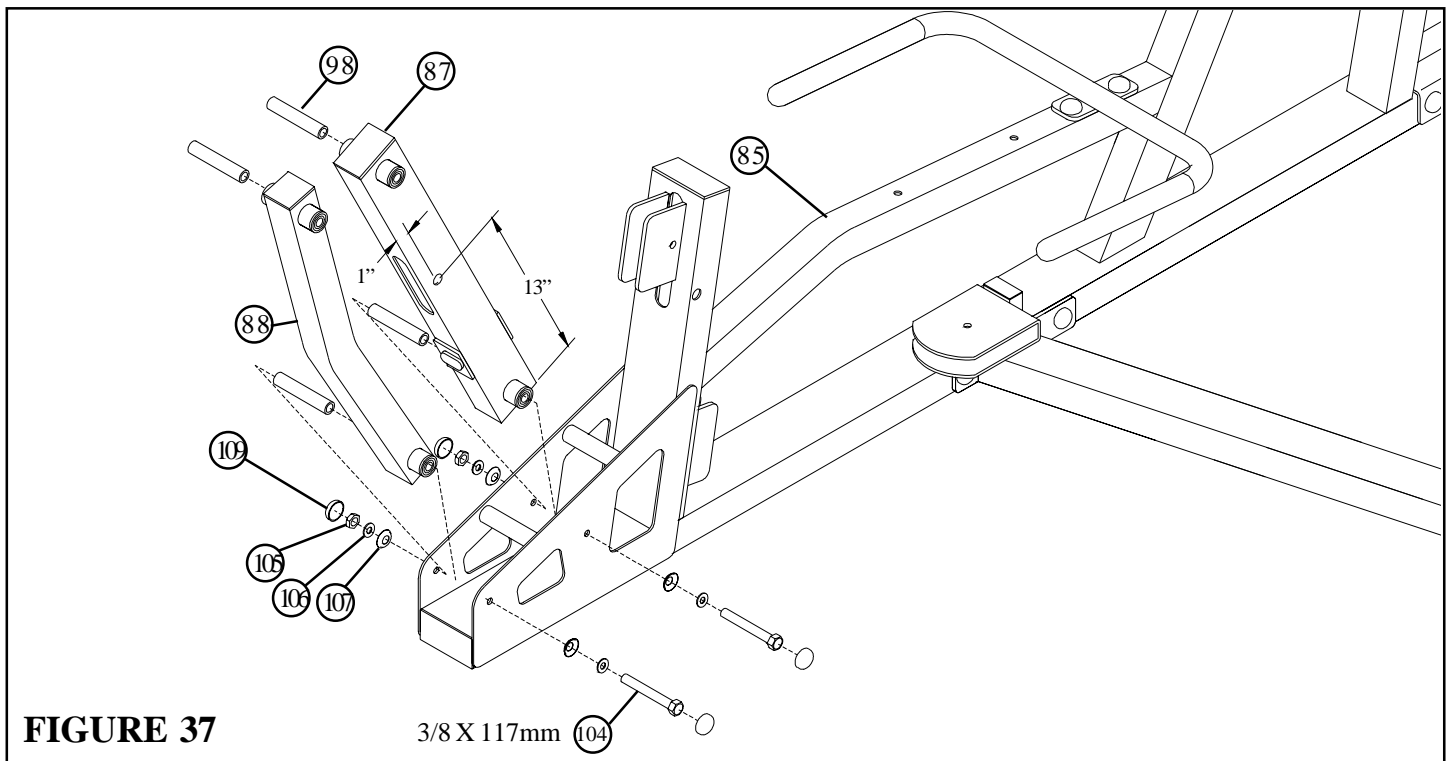

**FIGURE 36**
- **SECURELY** assemble the HANDLE (86) to the LEG PRESS FRAME (85) using four RH CAPS (109), two 3/8 X 67mm BOLTS (101), four 3/8 SAE WASHERS (106), four 3/8 RH WASHERS (107) and two 3/8 LOW HEIGHT LOCK NUTS (105) as shown in FIGURE 36.